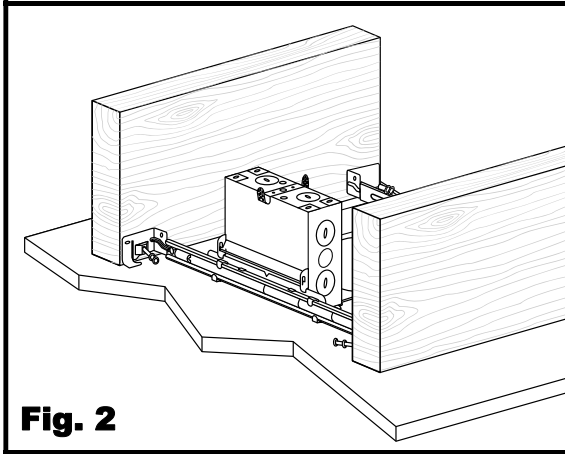

Fig. 2
2. Position the frame between joists. Make sure that the hanger bars are in the correct position. The bottom edge of the hanger bars should be level with the bottom of the joists. [Fig. 2]